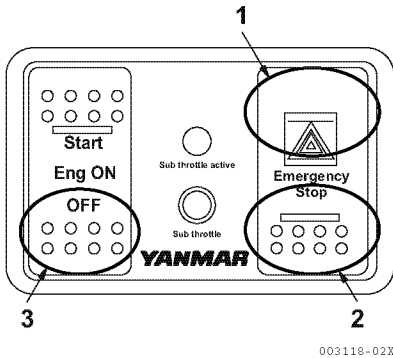

Figure 6
3. Push OFF (bottom half) of Eng ON switch (3, **Figure 6**). The engine shuts down within 2 to 7 seconds normally. The regular engine shutdown takes time because the controller is adjusted in the fuel injection timing to the most suitable position for the next start.
Push the upper part of the Emergency Stop switch (1, **Figure 6**) on the right of the panel and the engine shuts down immediately, without the time lag of regular engine shutdown. After shutdown, push the bottom part of the emergency stop switch (2, **Figure 6**) to be returned to the former position.
Use this switch only in an emergency. Under normal circumstances, use the OFF, Eng ON, Start switch (3, **Figure 6**) to stop the engine.